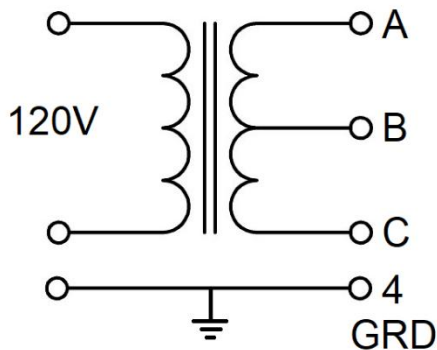

Figure 4: An educated guess at the internal organization of the KS21239L4 transformer.
Now that we have that out of the way, let’s determine the configuration of windings in the transformer. My guess is that the transformer output is center tapped; meaning that the secondary winding is divided into two evenly split sections as shown in Figure 4.
- 4) What screw-terminals are associated with A, B and C in Figure 4? Hint, there are two possible answers, just provide one.
- 6) What is the RMS voltage between terminals A and B in Figure 4? Convert this RMS voltage to peak-to-peak.
7) What is the RMS voltage between terminals A and C in Figure 4? Convert this RMS voltage to peak-to-peak.